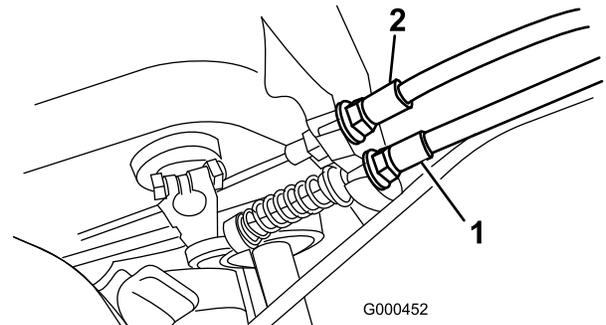

Figure 36
2. To increase cable tension, loosen front cable jam nut and tighten back cable jam nut (Figure 36) until a force of 11–14 lb. is required to engage brake. Force to be measured at lever knob. Do not over adjust, or brake band may drag.